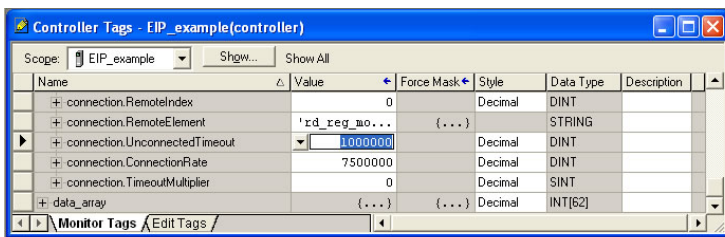

Figure 101: Reduce the UnconnectedTimeout Value
- e) Select the “Monitor Tags” tab. Expand the “connection” tag by clicking on the “+” sign next to the tag name. Scroll down to the connection.UnconnectedTimeout field and change its value from the default 30000000 (30s in 1uS increments) to 1000000 (1s). This value determines how long to wait before timing out and retransmitting a connection request if a connection failure occurs. Refer to Figure 101.